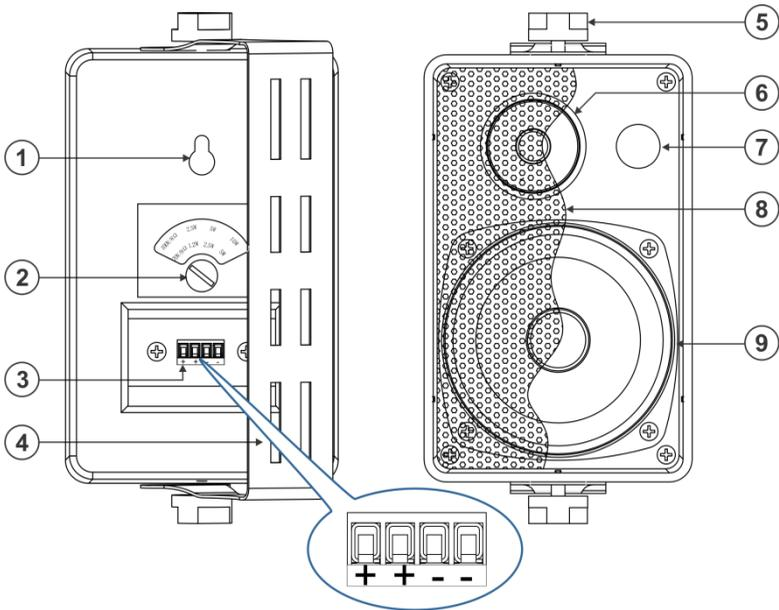

Figure 1: Galil 4-O
5. Connect one of the + and – terminal block pairs on the rear panel (see Figure 1) by connecting the wire from the: